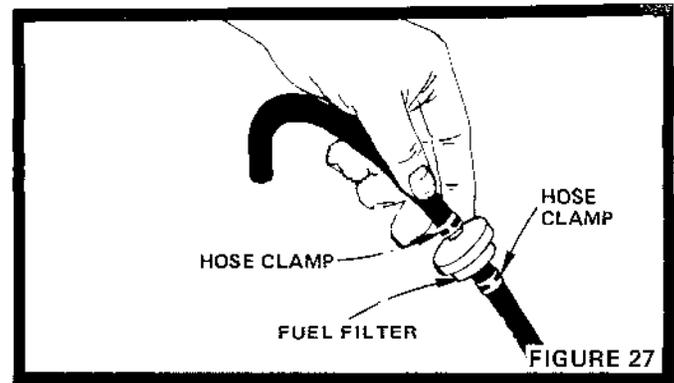

FIGURE 27
- With Engine cool, remove and plug Fuel Line Sections as removed from both ends of Fuel Filter (Fig. 27).